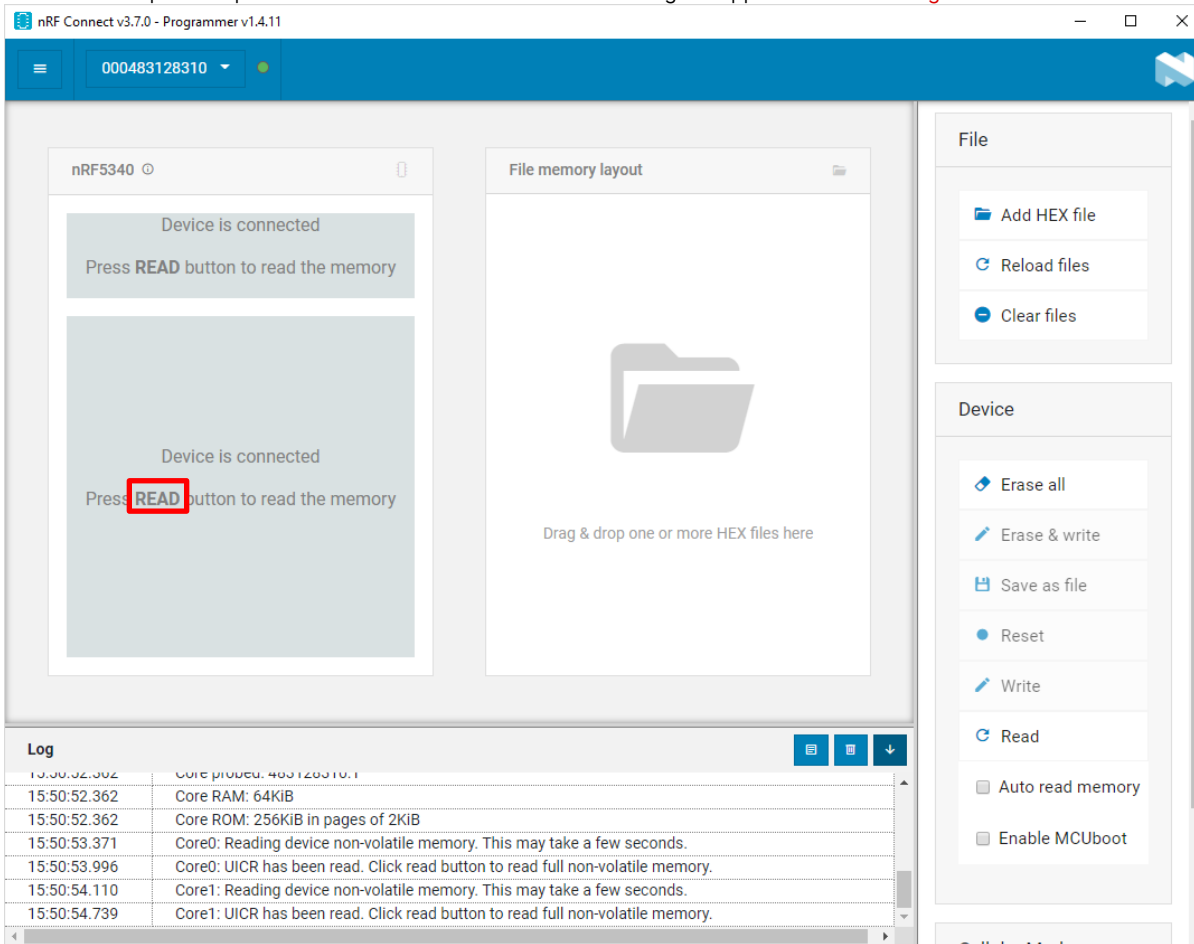

Figure 5: "Device is Connected" message
- Wait for boot up to complete and the "Device has been read" message to appear as shown in Figure 5.